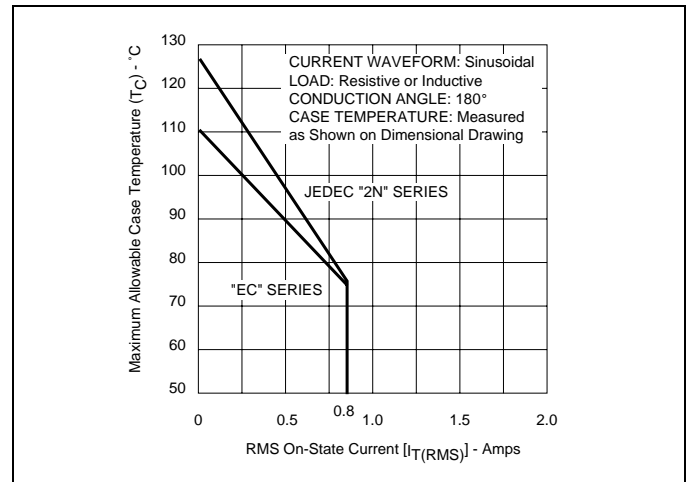
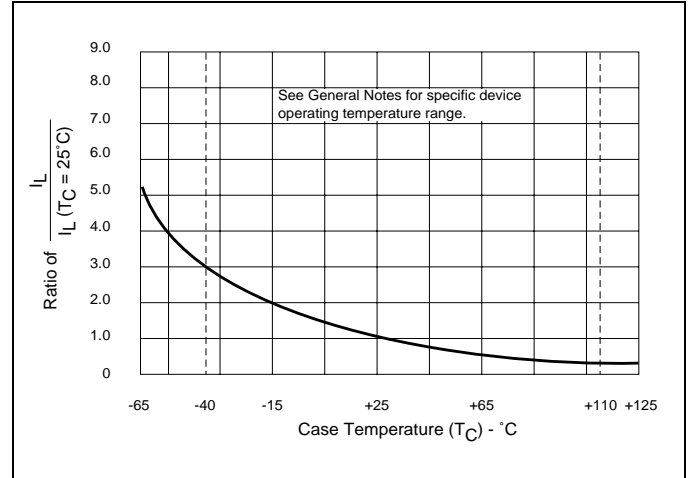

Figure 5.1 Maximum Allowable Case Temperature vs RMS On-State Current (JEDEC "2N" Series and "EC" Series)
Figure 5.18 Normalized DC Latching Current vs Case Temperature
- (1) See Figures 5.1 through 5.9 for current ratings at specified operating case temperatures.
- (12) See Figures 5.1 through 5.9 for maximum allowable case temperature at maximum rated current.
- (13)  $I_{GT} = 500\mu A$  maximum for  $T_C = -40^\circ C$  for T106 devices.
- (14)  $I_H = 10mA$  maximum for  $T_C = -65^\circ C$  for 2N5060 Series and 2N6564 Series devices.
- (15)  $I_H = 6mA$  maximum for  $T_C = -40^\circ C$  for T106 devices.
- (16) Pulse Width  $\leq 10\mu s$ .
- (17)  $I_{GT} = 350\mu A$  maximum at  $T_C = -65^\circ C$  for 2N5060 Series and 2N6564 Series devices.
- (18) Latching current can be higher than 20mA for higher  $I_{GT}$  types. Also latching current can be much higher at  $-40^\circ C$ . See Figure 5.18.
- (19)  $T_C = T_J$  for test conditions in off-state.